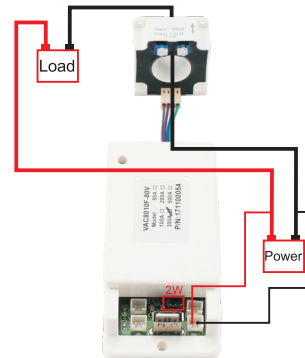

Figure 3-1
1). Self powered wiring diagram (Figure 3-1)